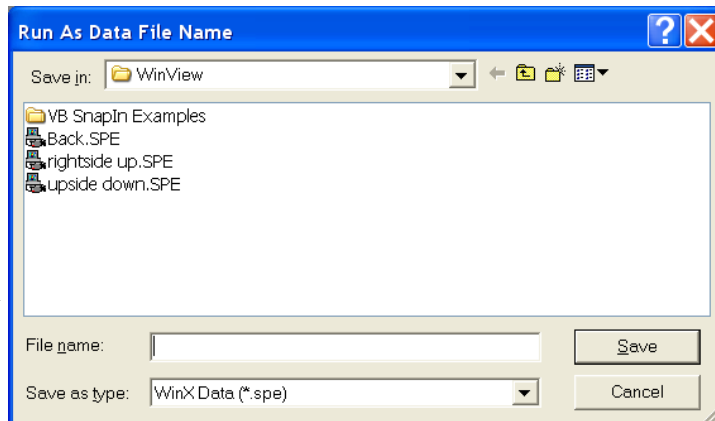

Figure 26. File Browse dialog
9. Click on the button to the right of the **Name** field. This will open a browse box. Select the directory where you want the stored file to go. In Figure 26, the file name *testfile* will be used and the file will be stored in a directory named Data. *If the file name does not automatically appear in the browse box, type it in.* The file type should be WinX Data (\*.spe).